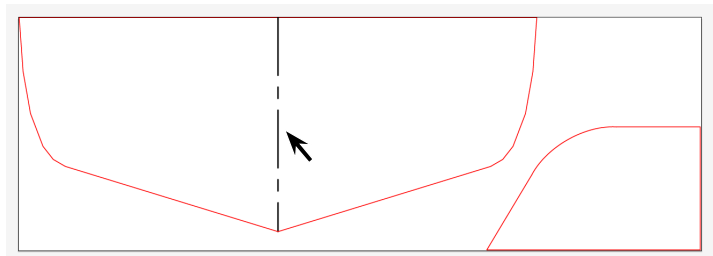

Fig. 58
Step 7. Select the **centerline of the H Stab** and change to **Black .5 Stroke**, **Fig. 58**.